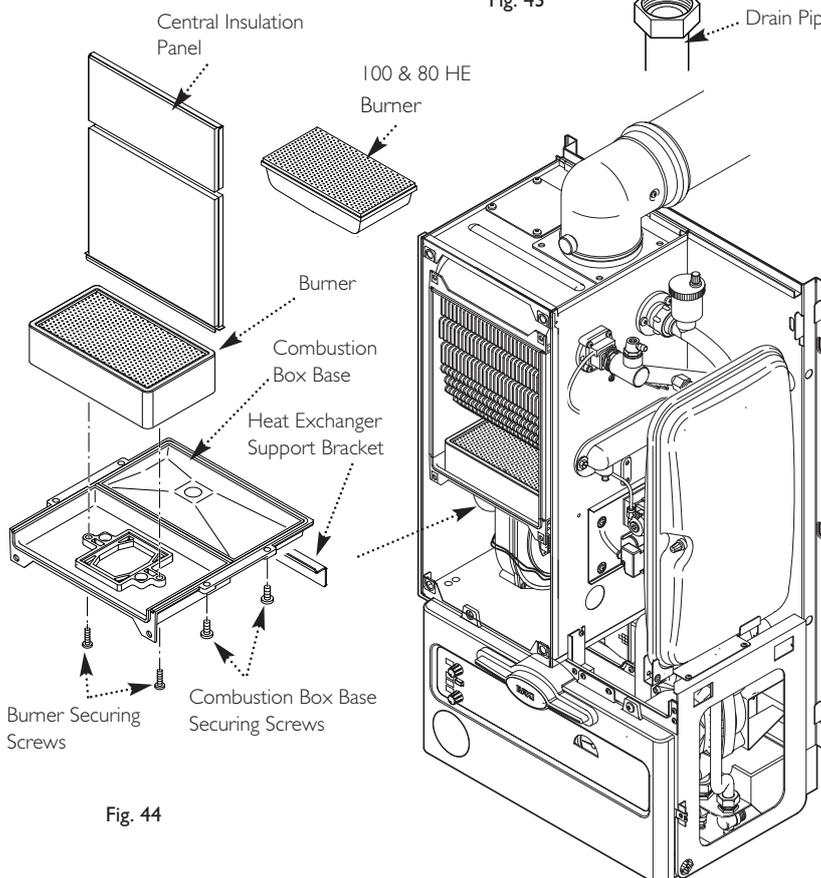

Fig. 44
- Remove the two screws securing the burner and remove the burner. Visually inspect the internal burner baffle for obstruction (Fig. 44).
NOTE: The 133 HE Plus burner skin is fragile - handle with care. Clean and if necessary replace the burner (Fig. 44).
- Loosen the two screws retaining the heat exchanger support bracket and slide to the left to remove (Fig. 44).
- Lower the central insulation panels and check condition (Fig. 44). Replace the insulation pads if necessary.